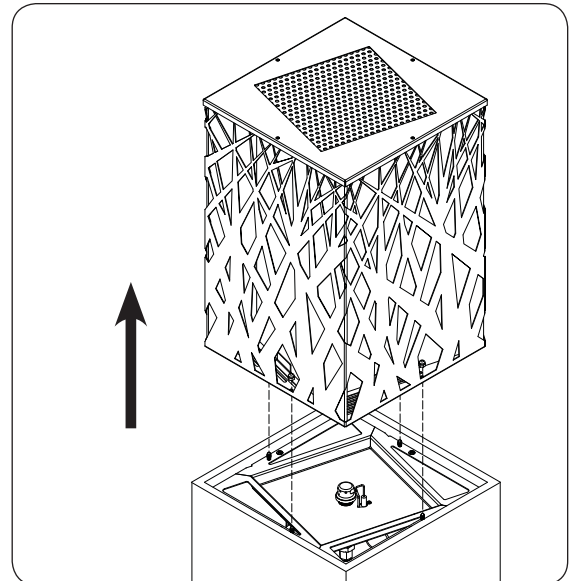
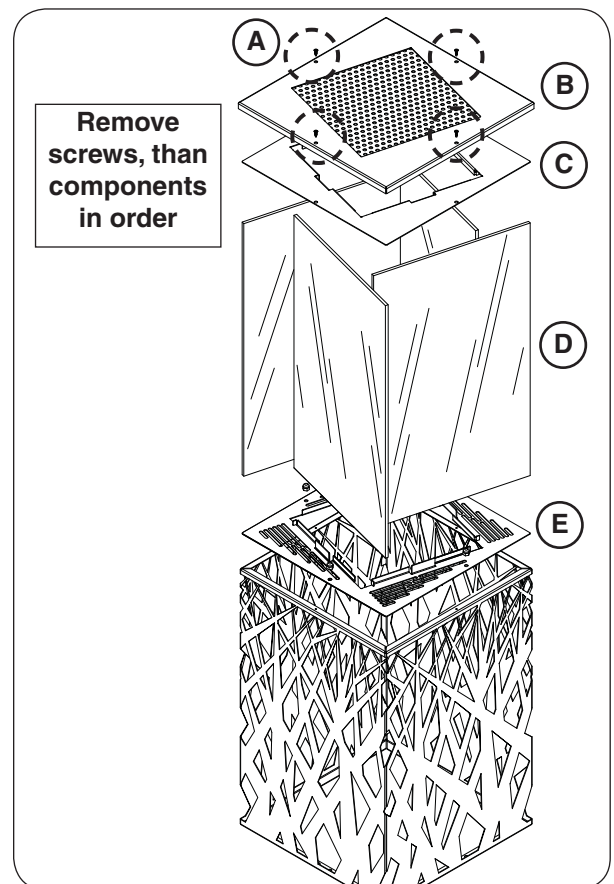

Fig. 35-1 Remove top assembly
Fig. 35-2 Disassemble top assembly
1. Using a $\frac{3}{8}$ " socket driver, remove the four acorn lock nuts at the base of the top assembly, then **CAREFULLY** remove the assembly and set it on a flat and clean work area (see Fig. 35-1).
2. Using a Phillips screwdriver, remove the four screws on the top of the assembly (see fig. 35-2, A).
3. **CAREFULLY** lift up and remove the components, in order, as shown in Fig. 35-2, B - E. Set on the flat clean work area and clean per the instructions below.
1. **CAREFULLY** reverse the disassembly steps above to reassemble and reinstall the top assembly. Refer to Fig. 35-2, Fig. 35-1, and the LANTERN INSTALLATION - TOP ASSEMBLY section as needed.